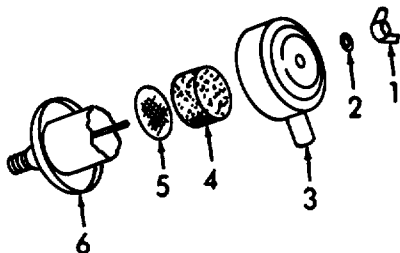

Figure 3-21. Air Cleaner, Removal.
a. *Removal.* (Refer to Figure 3-21).